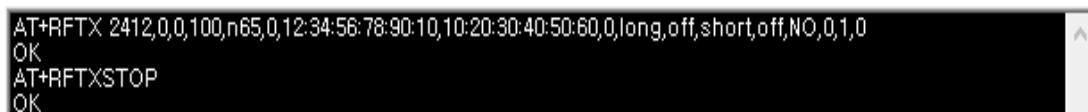

Figure 12: Debug Console – Stop TX
- When you click the **Stop TX** button, messages as shown in Figure 12 will be shown